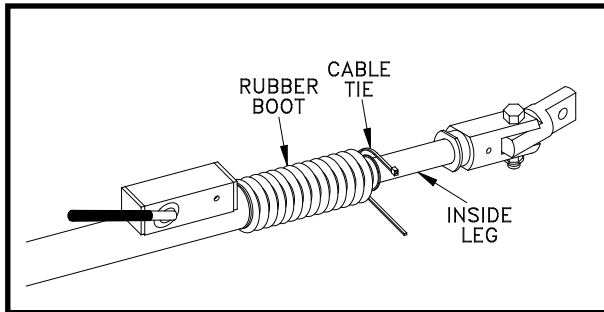

Figure 7
1. Lubrication of the inside leg is recommended one to two times a year, or whenever needed. Both cable ties should be removed for proper cleaning. Wipe the inside leg clean, reattach the rubber boot to the outside leg using a new 9 inch cable tie. Apply a lithium grease to the inside leg to insure smooth operation. Attach the bottom portion of the rubber boot to the leg pivot using the 8 inch cable tie. (Cable ties are available at most automotive or hardware stores). **See Figure 7.**